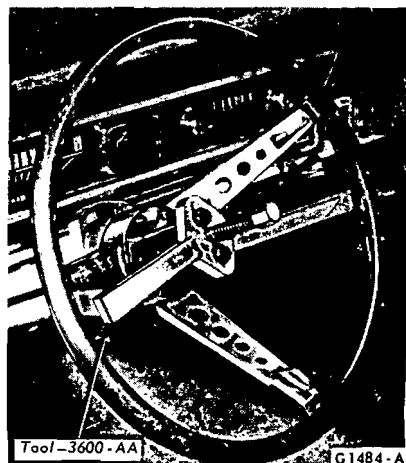

FIG. 6—Removing Steering Wheel—Typical
3. Remove steering wheel nut, and then remove the steering wheel with tool 3600-AA (Fig. 6). Removing the steering wheel with a knock-off type puller will cause damage to the steering column bearings.
4. Remove the steering wheel attaching nut and remove the steering wheel with Tool 3600-AA (Fig. 6).
5. Remove the steering wheel attaching nut and remove the steering wheel with Tool 3600-AA (Fig. 6).
5. Remove the steering wheel retaining nut and remove the steering wheel with Tool 3600-AA (Fig. 6).
2. Remove the steering wheel attaching nut. Remove the steering wheel (Fig. 6) with a puller.
2. Remove the steering wheel attaching nut. Remove the steering wheel (Fig. 6) with a puller, Tool 3600-AA.